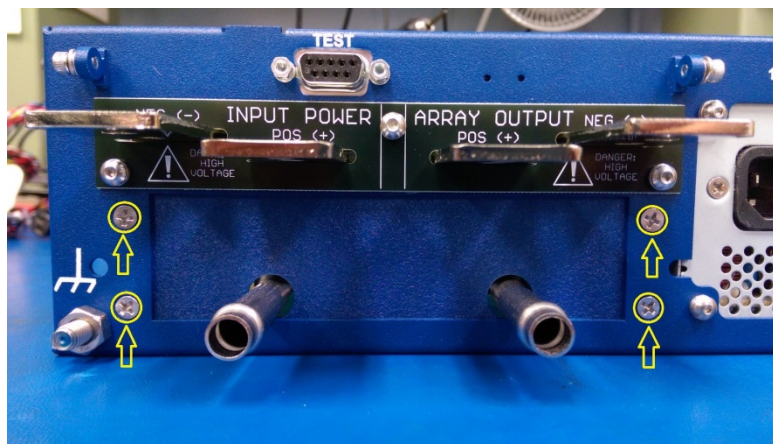

Figure 1: Remove 4 screws.
5. Using a Phillips screwdriver, remove the 4 Phillips screws holding the plate onto the back of the eDrive around the coolant ports. See Figure 1 below.